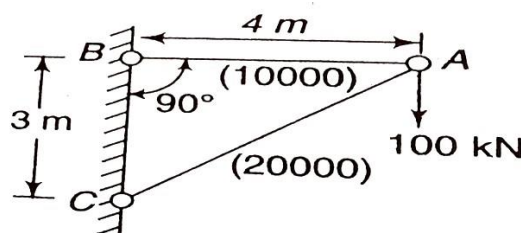

Figure 3.8
8. Figure 3.8 shows a jip-Crane carrying vertical load of 10kN at A. Determine the deflection of Joint A. Hence calculate the forces in members AB & AC. The cross-sectional area in mm^2 . Take $E=200kN\cdot mm^2$.